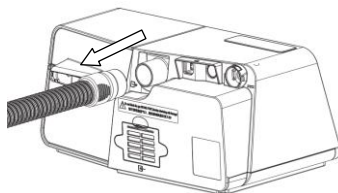
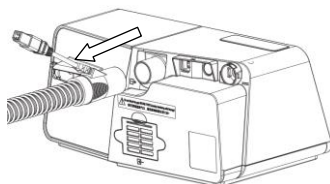

Fig. 18-4
Fig. 18-5
- (1) Remove the tubing from the device and mask before cleaning.
- (2) Hold the cuff of the tubing and gently pull it away from the device as shown in Fig. 18-4. Or disconnect the power of the heated tubing, then hold the cuff of the heated tubing and pull it away from the device, as shown in Fig. 18-5.